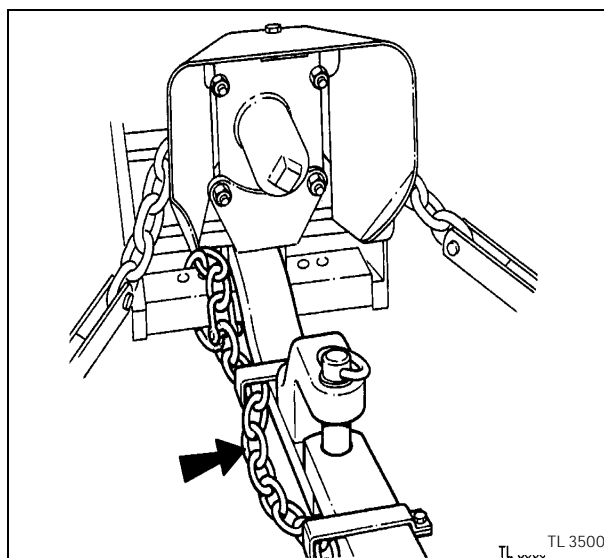

Fig. 23
- A safety chain will help control drawn equipment should it be accidentally separated from the drawbar while transporting. Using the appropriate adaptor parts, attach the chain to the tractor drawbar support or other specified anchor location. Provide only enough slack in the chain to permit turning. See your Massey Ferguson Dealer for a chain with a strength rating equal to, or greater than the gross weight of the towed machine (Fig. 23).
- Make sure any towed implements are equipped with a safety chain linking tractor and implement (Fig. 23).